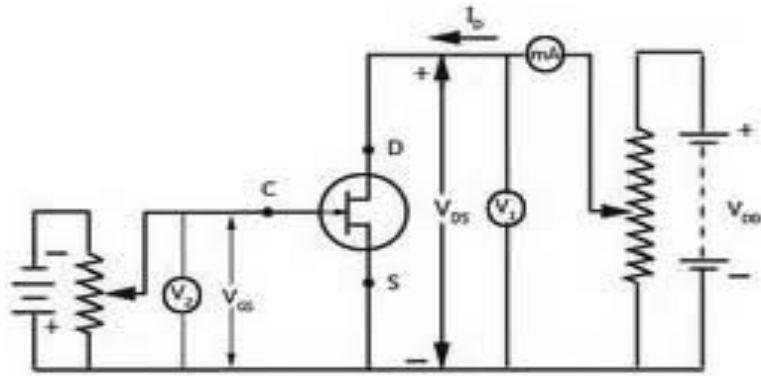

Figure 6: Input Output Characteristics of JFET
1. Connect the electrical circuit as shown in Figure 6.